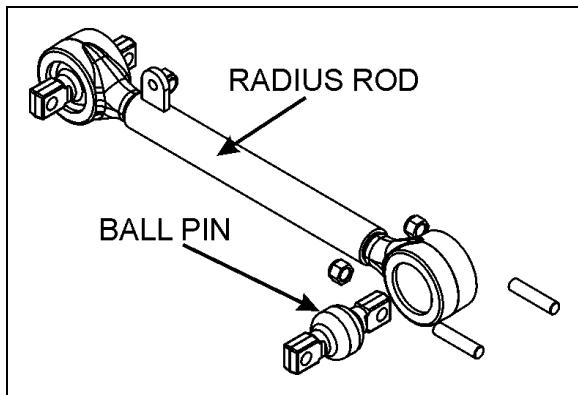

FIGURE 4: TYPICAL RADIUS ROD SETUP 16010
- Unscrew the nuts (or bolts) at each extremity of the radius rod (Figure 4).